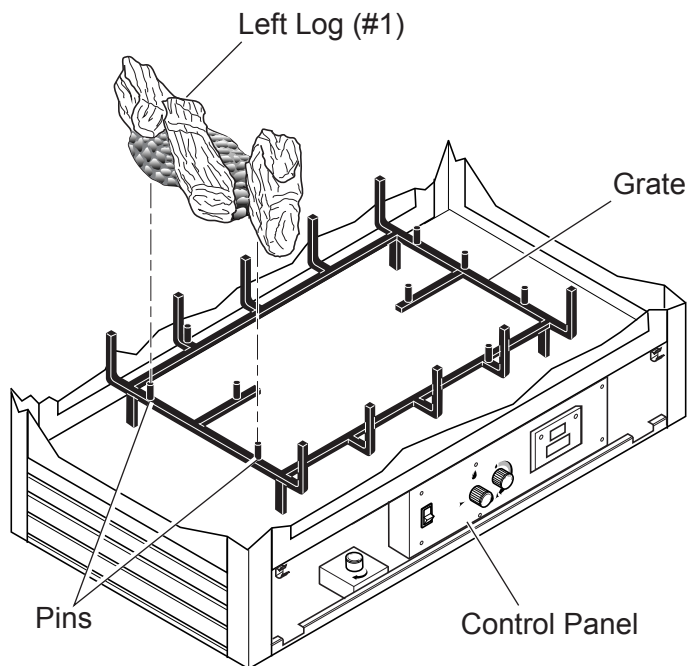

Figure 43 - Installing Left Log (#1)
3. Place left log (#1) on left end of grate. Line up two (2) pin holes in bottom of log with two (2) pins on grate. Log #1 will always be to the left of the control panel. *See Figure 43.*